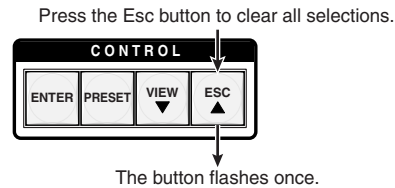

Figure 3-40 — Clear all selections
1. Press and release the Esc button (figure 3-40).